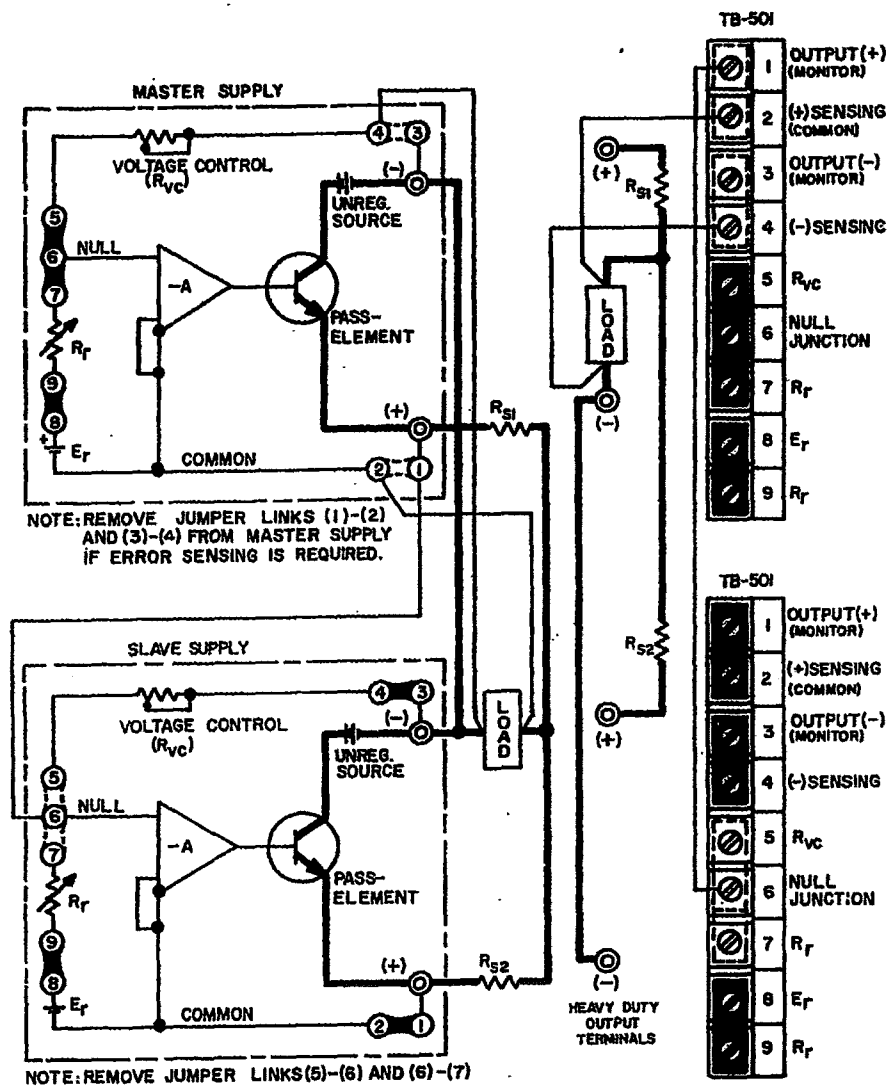

FIG. 3-14 MASTER SLAVE PARALLEL CONNECTION OF KEPKO POWER SUPPLIES
- 3 45 **MASTER/SLAVE PARALLEL CONNECTION.** Two power supplies are shown in FIG. 3-14, although more can be paralleled, each unit requiring its own sampling resistor. The sampling resistors ( $R_{s1}, R_{s2}$  in FIG. 3-14) are of equal value and are selected such that the voltage drop across them (due to the output current), plus the voltage drop in the load connection leads does never exceed 0.5 volts. If the voltage drop across the load connecting leads alone is at least 0.1 volt, the sensing resistors can be deleted since the leads provide the necessary sample voltage. For equal current sharing, however, the lead *length* and *diameter* should be the same for both power supplies. Output control is exercised from the "Master" supply.
- 3-46 **PROCEDURE FOR "MASTER/SLAVE" PARALLEL OPERATION (See FIG. 3-14)**
- 2) Make all load and sensing connections as shown in FIG. 3-14. The error sensing connections may be deleted if the minor voltage drop across the load wires (which subtracts from the available compliance voltage) can be tolerated.